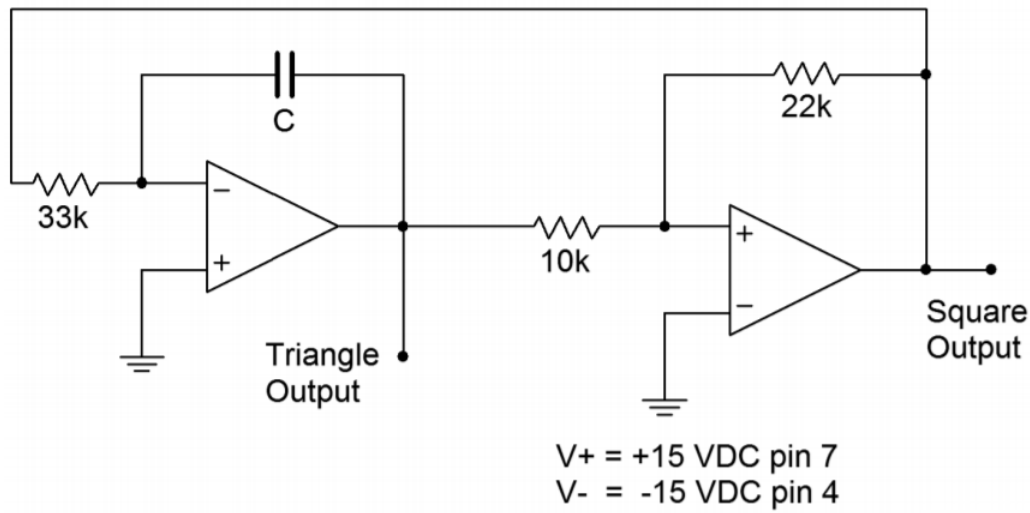

Figure 16.5.1
2. Construct the circuit of Figure 16.5.1 using the 10n F capacitor and the medium speed op amps.